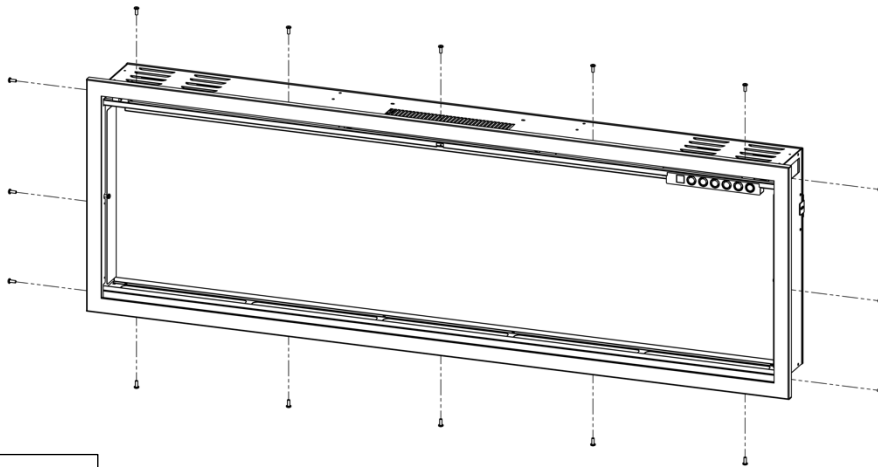

Fig. 4-2
- Remove the screws of the Slide-In Frame and place them aside (Fig. 4-2).